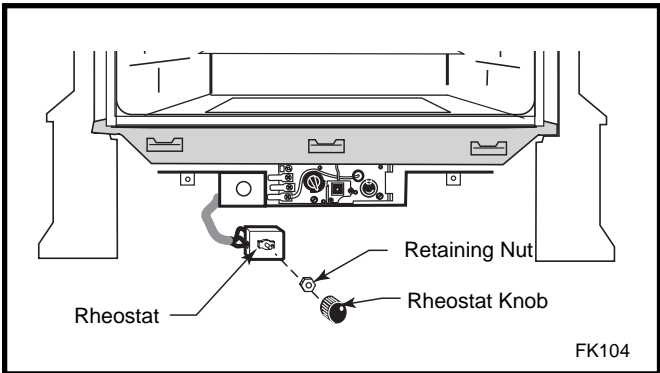

Fig. 20 Attach rheostat to bracket.
4. The rheostat control switch attaches to the left side of the valve bracket at the front of the stove. (Fig. 20)